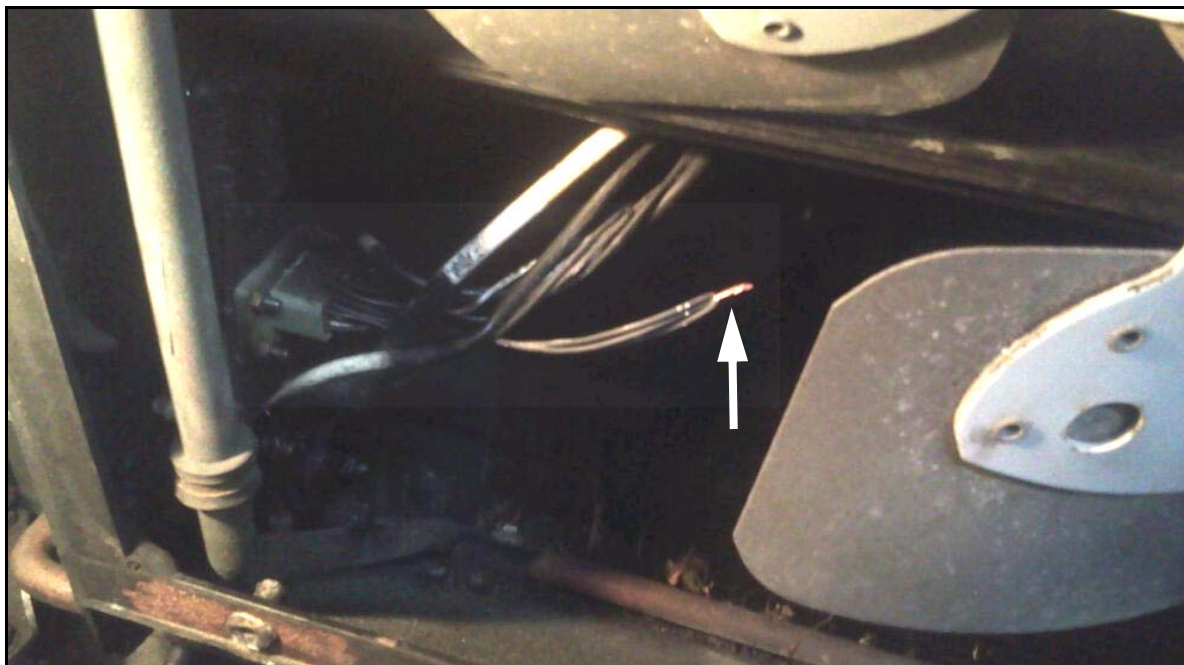

Figure 2. Condenser compartment.
8. Locate the wires shown in Figure 2.